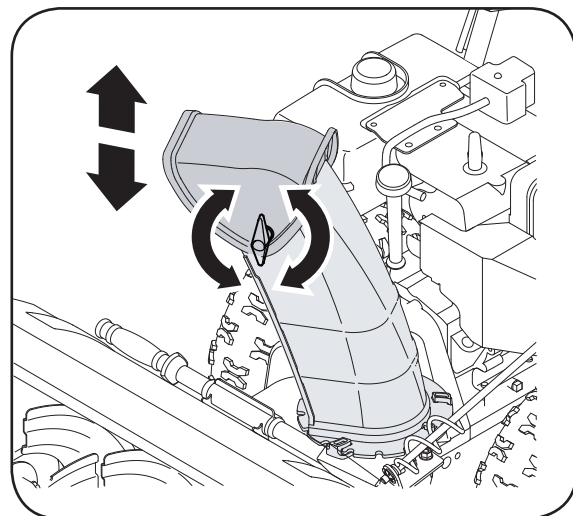

Figure 5-5
2. Pivot the chute upward or downward before retightening the wing knob. See Figure 5-5.